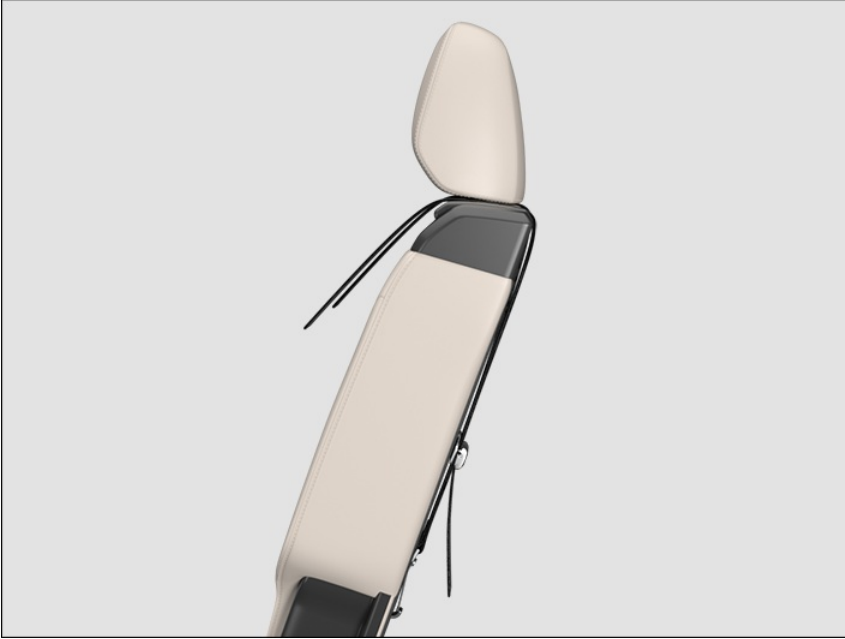

Fig. 46 On the back of the second-row seats: attached top tether safety belt.
9. Hook the top tether safety belt into the appropriate anchorage marked with “top tether” fig. 46.